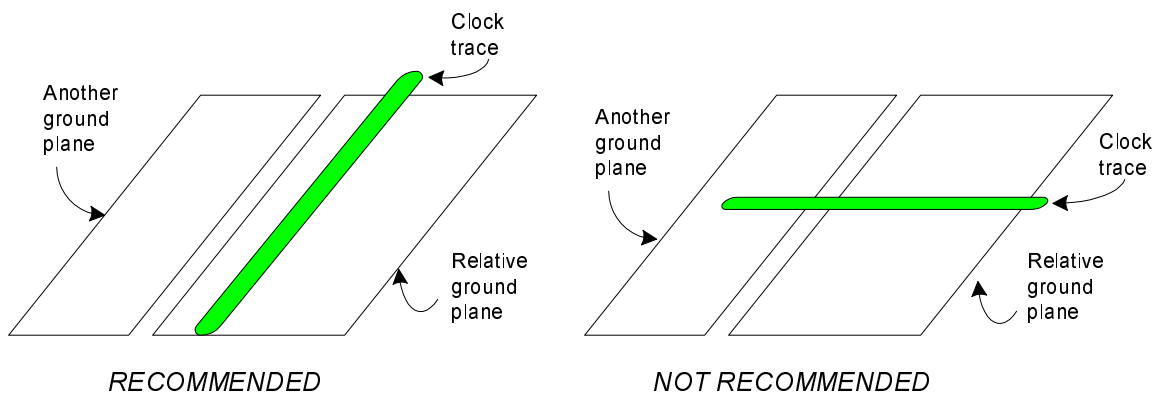

Figure 2-19. Effect of Ground Plane to a Clock Signal
- Clock traces should be parallel to their reference ground planes. That is, a clock trace should be right beneath or on top of its reference ground plane (see Figure 2-19).